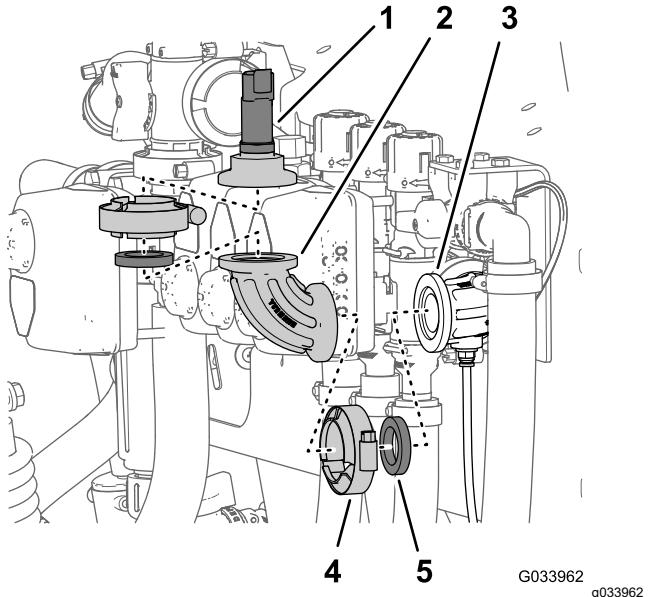

Figure 38
2. Remove the flange clamp that secures the pressure transducer to the 90° fitting, and remove the transducer, gasket and flange clamp (Figure 38).
4. Remove the flange clamp that secures 90° fitting to the 90° fitting with a connector for the sense tube, and remove the 90° fitting, gasket and flange clamp (Figure 38)